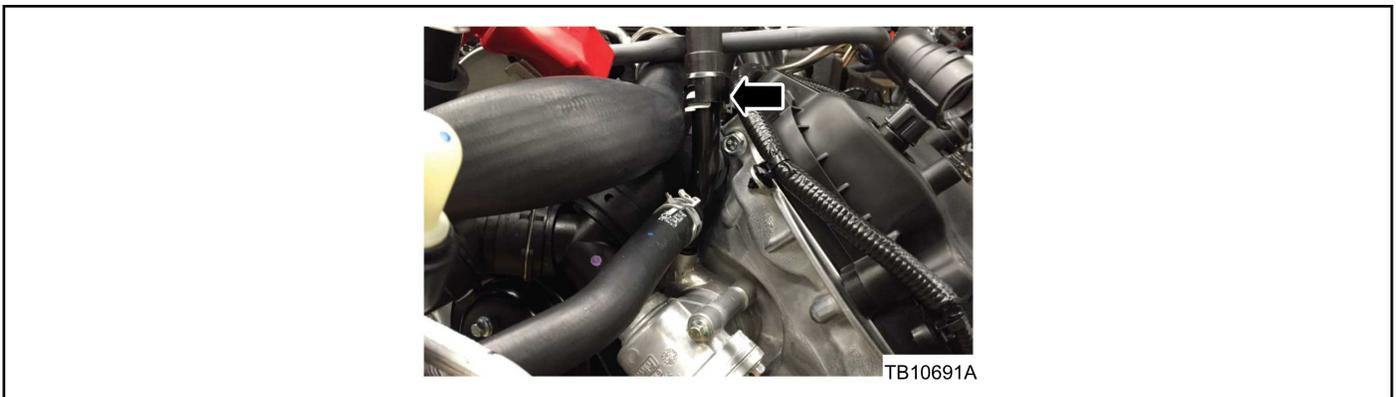

Figure 1 - Article 15-0073
2. Is the heater outlet hose disconnected from or leaking at the heater outlet tube on the coolant pump? (Figure 1)